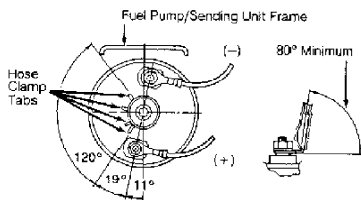

Fig. 25: Installing Fuel Pump (MPV)
1) Replace fuel hose between pump and outlet pipe (DO NOT apply excessive force when installing onto pump nipple). Install hose clamps so each clamp is located .10" (3 mm) from end of hose and hose clamp tabs are positioned around circumference of hose as specified in illustration. See Fig. 25.